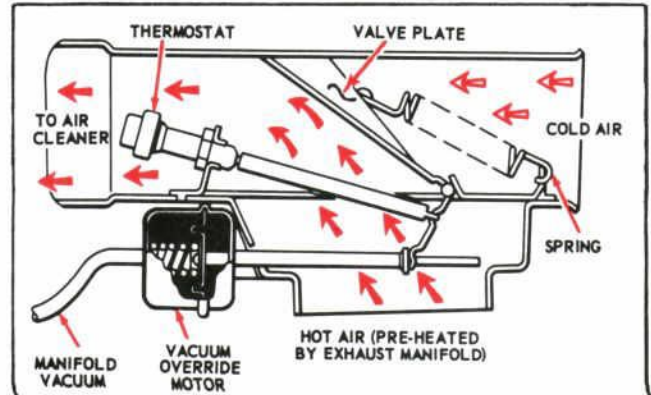

Fig. 1—Duct and Valve Assembly (Heat on Position)
1. With duct assembly installed on vehicle, cold engine, and ambient temperature in the engine compartment of less than 100°F., the valve plate should be in the "heat on" or up position (See Fig. 1).
5. Raise the water temperature to 100°F., allow 5 minutes to stabilize temperature, and observe the valve plate position. The correct position should be in the heat on or up position (See Fig. 1).